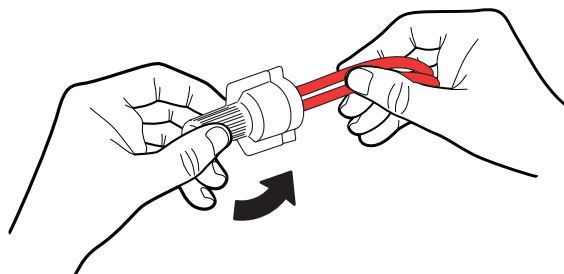

Figure 12b
- b. With wire ends even, insert wires into the connector and tighten until secure (see Fig. 12b).